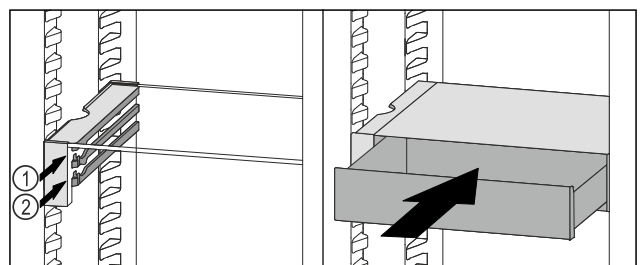

Fig. 102
- Place the VarioSafe drawer behind the stoppers on desired rib Fig. 102 (1) or Fig. 102 (2).